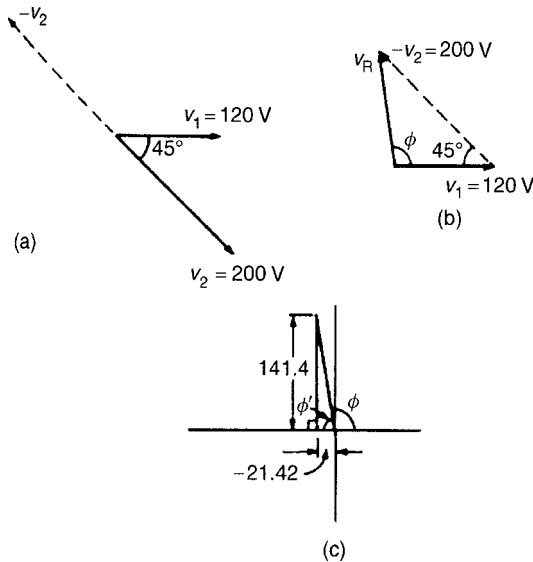

Figure 14.14
- (b) The relative positions of v_1 and v_2 are shown at time $t = 0$ as phasors in Fig. 14.14(a). Since the resultant of $v_1 - v_2$ is required, $-v_2$ is drawn in the opposite direction to $+v_2$ and is shown by the broken line in Fig. 14.14(a). The phasor diagram with the resultant is shown in Fig. 14.14(b) where $-v_2$ is added phasorially to v_1 .
From Fig. 14.14(c), resultant